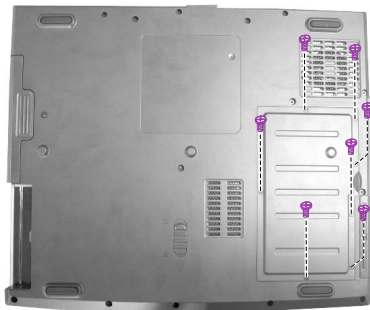

Figure 2-14 Remove the SO-DIMM Cover
2. Remove seven screws to access the SO-DIMM socket. (Figure 2-14)